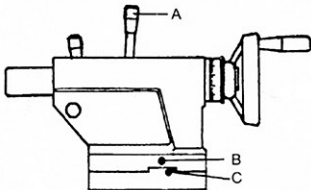

Fig.22
1. Lock tailstock in position by raising locking handle(A, Fig.22)
2. Alternately loosen and tighten front and rear hex socket cap screws(B, Fig.22).
Take up play in the tailstock by tightening two gib screws(C, Fig.22) on either side of the tailstock base. Note: Do not over tighten. Excessive tightening will lead premature wear of the gibs and mating parts.